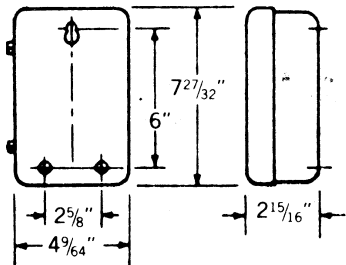

**Figure 2. Spring Loaded Catch**
1. Remove back mounting plate by releasing spring loaded catch. See Figure 2.